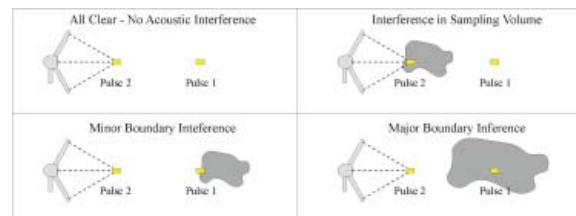

Figure 9 – Possible Boundary Interference Situations
Figure 9 illustrates a number of possible boundary interference scenarios. The relative locations of the two acoustic pulses in this figure are for illustration only; in real operation, a range of pulse spacing is used.
- Ideally, the sampling volume is free of any underwater obstacles and the first pulse is not hitting any obstacles when the second pulse is in the sampling volume case. In this situation, the FlowTracker can made velocity measurements without any adjustment (top left illustration in Figure 9).
- If an underwater obstacle is present in the sampling volume, the FlowTracker will always see interference and is unable to make accurate velocity measurements (top right illustration in Figure 9).
- If the first pulse is hitting an underwater obstacle at the same time the second pulse is in the sampling volume, then FlowTracker may see acoustic interference (bottom two illustrations in Figure 9).